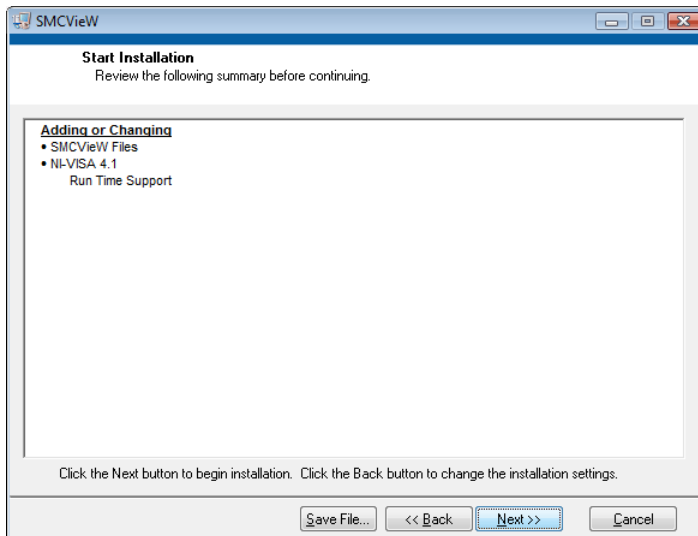
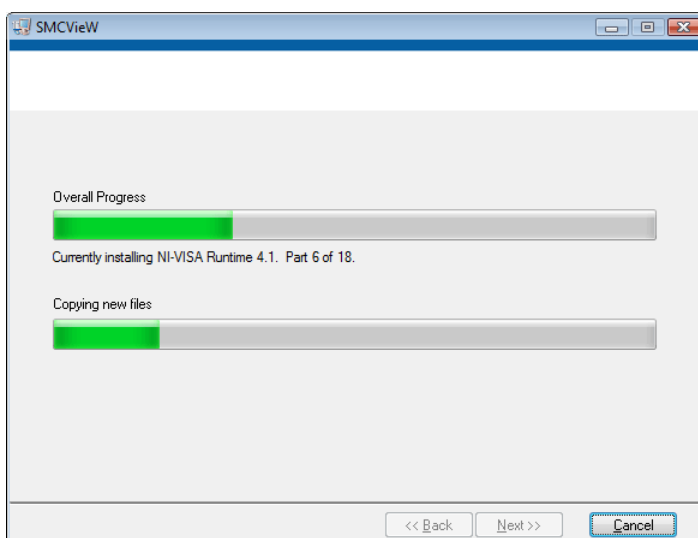

Figure 44. SMCView 5th installation screen
Figure 45. SMCView 6th installation screen
- Please press the “Next>” button and wait until installation process will be done (see Figure 44, Figure 45).